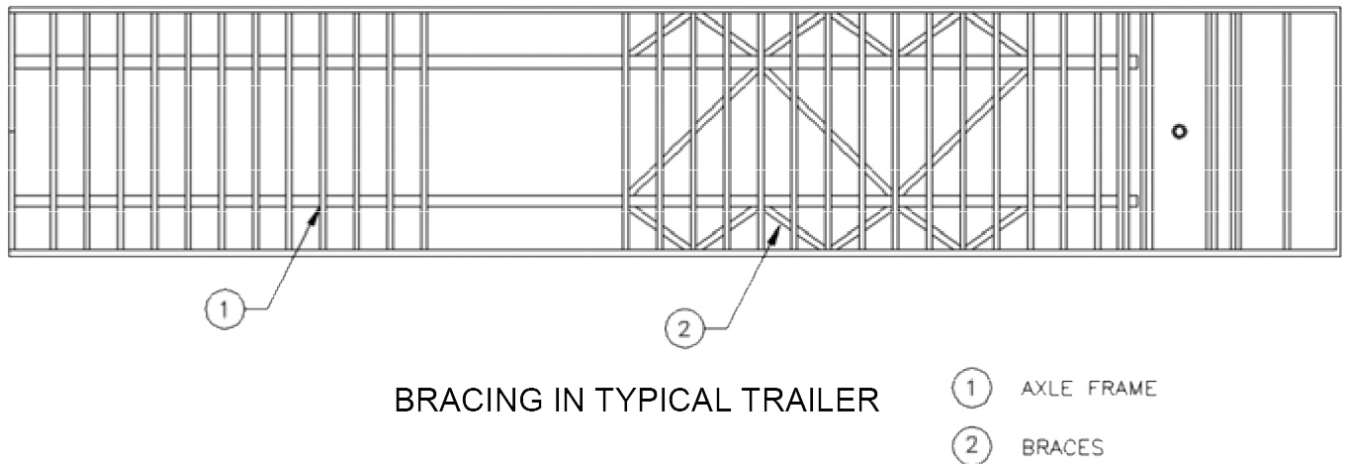

Figure 41
- 1) Install bracing as shown in (Figure 41) It is best to add bracing before removing the old floor because the floor keeps the trailer straight. If flat bar is used, make a cross bracing, because it will buckle easily under compression. Steel angle does not require a cross bracing. Make sure there is enough wheel clearance when installing steel angle. The bracing reaches to the drive opening. Weld or bolt the braces to each intersecting cross-member.